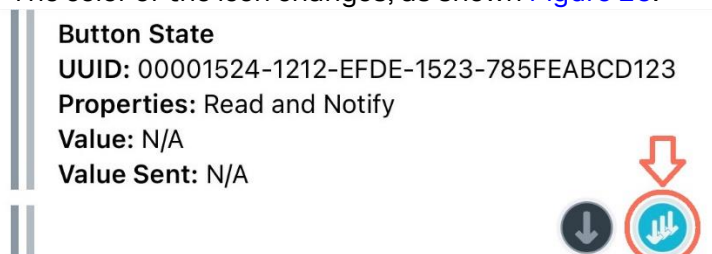

Figure 26: Enable notifications for button presses
6. In the Button State service, tap the triple-down-arrow icon to enable Bluetooth LE notifications. The color of the icon changes, as shown Figure 26.